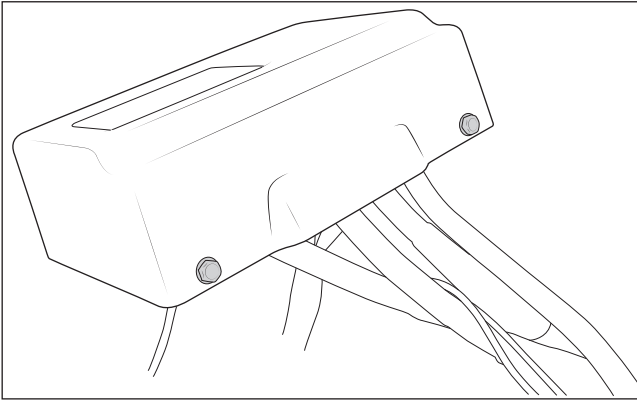

Figure 17
1. Remove the solenoid pack cover (fig. 17).